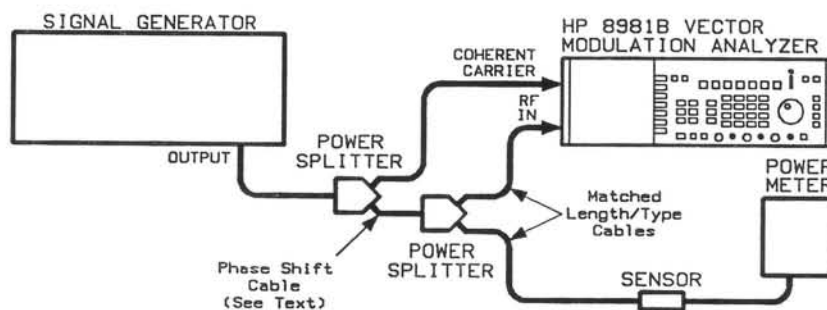

Figure 4-13. Full Scale Input Range Test Setup
2. Connect the equipment as shown in Figure 4-13. The cable connected to the RF IN connector on the Vector Modulation Analyzer should be matched (type and length) with the cable connected to the power sensor. This will minimize errors due to cable losses.